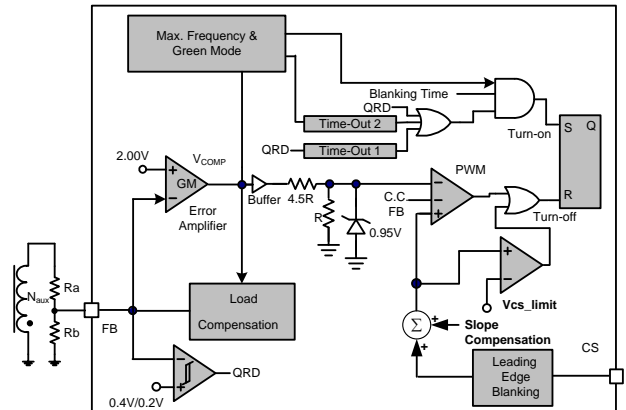

Fig. 17
The LD5523E2/K2 employs quasi-resonant (QR) switching scheme to switch in valley-mode either in CV or CC operation. This will greatly reduce the switching loss and the ratio dv/dt in the entire operating range for the power supply. Fig. 17 shows the typical QR detection block. The QR detection will detect auxiliary winding signal to drive MOS as FB pin voltage drops to 0.2V. The QR comparator will not activate if FB pin voltage remains above 0.4V.